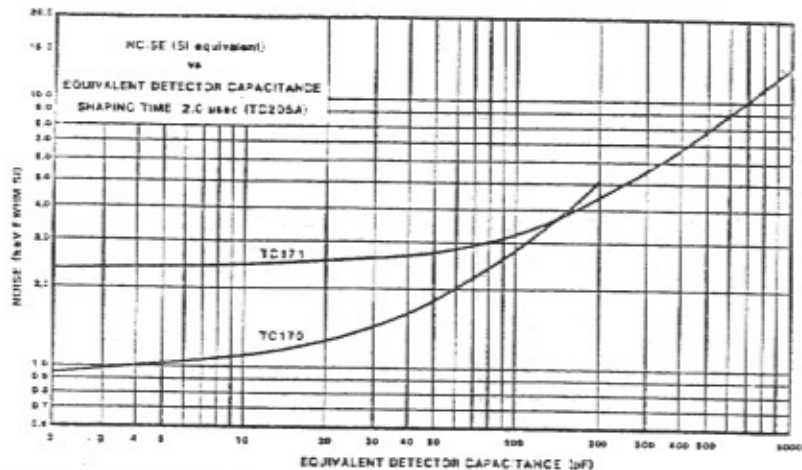

Figure 2.1 Electronic Noise vs Equivalent Detector Capacitance (Shaping Time of 2.0 usec.)
(1) " t_s " refers to shaping time in usec. With TERNELEC amplifiers such as the TC 205A, TC 222 and earlier designs, the peaking time (measured from the 1% level) is approximately twice the shaping time as indicated on the front panel. See Figures 2.1 and 2.2 for graphs of TC 170/TC 171, Noise versus Equivalent Detector Capacitance at shaping times of 2.0 usec and 0.5 usec.
The noise performance of the preamplifier can be estimated from the sum of connecting cable and detector capacitance. The noise as a function of this input capacitance is shown in Figures 2.1 and 2.2 for shaping times of 2 usec and 0.5 usec.